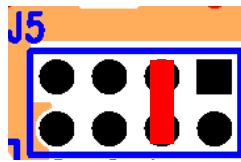

Figure 3: Shows the voltage selection jumpers
STEP 2: Set the output voltage by putting a jumper in the desired positions for connector header J5 as shown in Figure 3. If all jumper positions are left open, then R_B will be open, and V_{OUT} will be 0.6V nominal. The other positions will select the four possible R_B resistors. Table 1 shows the R_A and all possible R_B values, and the resulting V_{OUT} for each combination of R_A and single R_B . Please see Figures 1 and 5. It is possible to use parallel combinations of the four R_B resistors to get other output voltages. Please note the R_A , C_A , and R_B values for this board have been optimized for an input voltage of around 6.2V using the equations in Figure 1. The part will be stable for lower V_{IN} values, but to get optimum transient response, new R_A , C_A , and R_B values have to be calculated and installed.